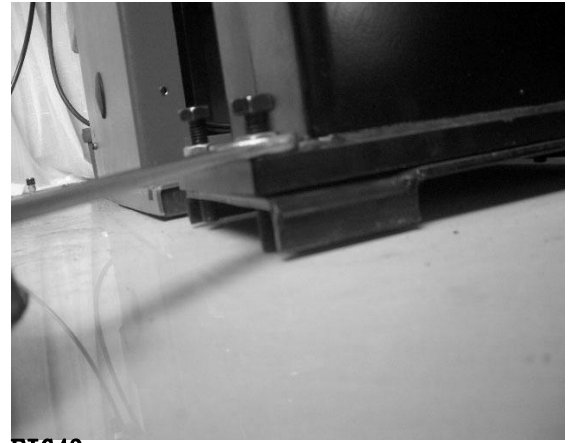

FIG43
6.1.10Loose the nut below the base and turn the screw clockwise until it against the ground and tight (fig43) and install The side panel and tool box removed in the 6.1.1. At this moment, the installation of the left assistant completed.6. 1. 9